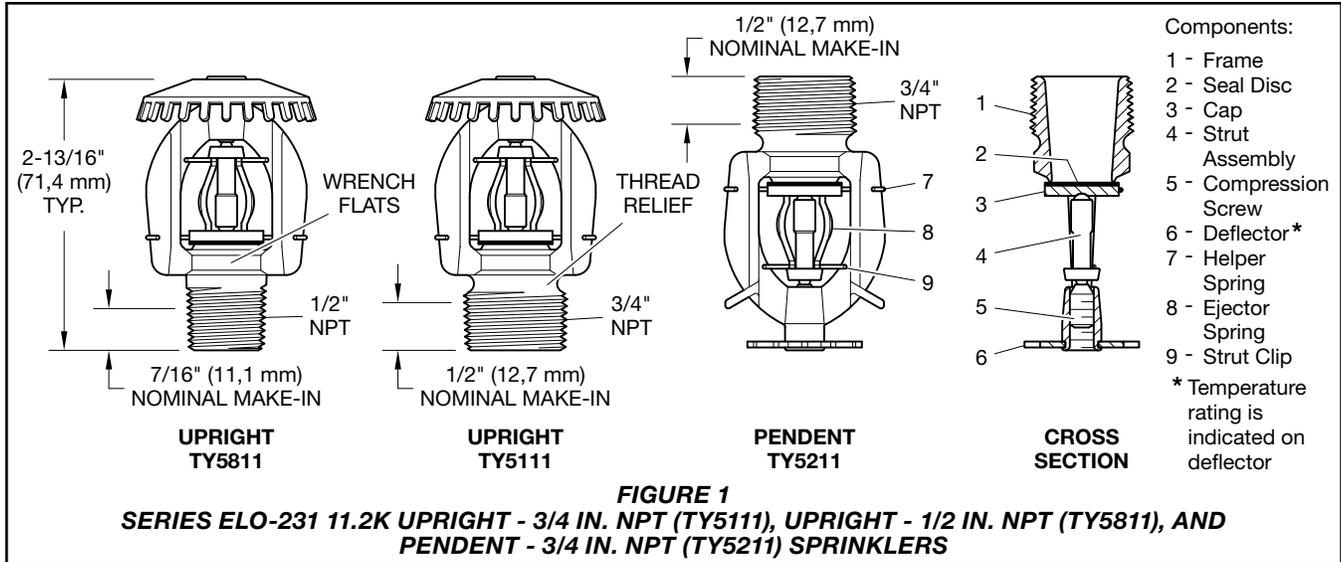

FIGURE 1
TYCO Series ELO-231 11.2K Standard Response, Standard Coverage Upright and Pendent Sprinklers (see Figure 1) are automatic sprinklers of the fusible solder type. They are standard response, spray sprinklers that produce a hemispherical water distribution pattern below the deflector.
Step 3. Tighten the sprinkler into the sprinkler fitting using only the W-Type 3 Sprinkler Wrench shown in Figure 2, except that an 8 in. or 10 in. adjustable Crescent wrench is to be used for wax coated sprinklers. With reference to Figure 1, the W-Type 3 Sprinkler Wrench or the adjustable wrench, as applicable, is to be applied to the wrench flats.